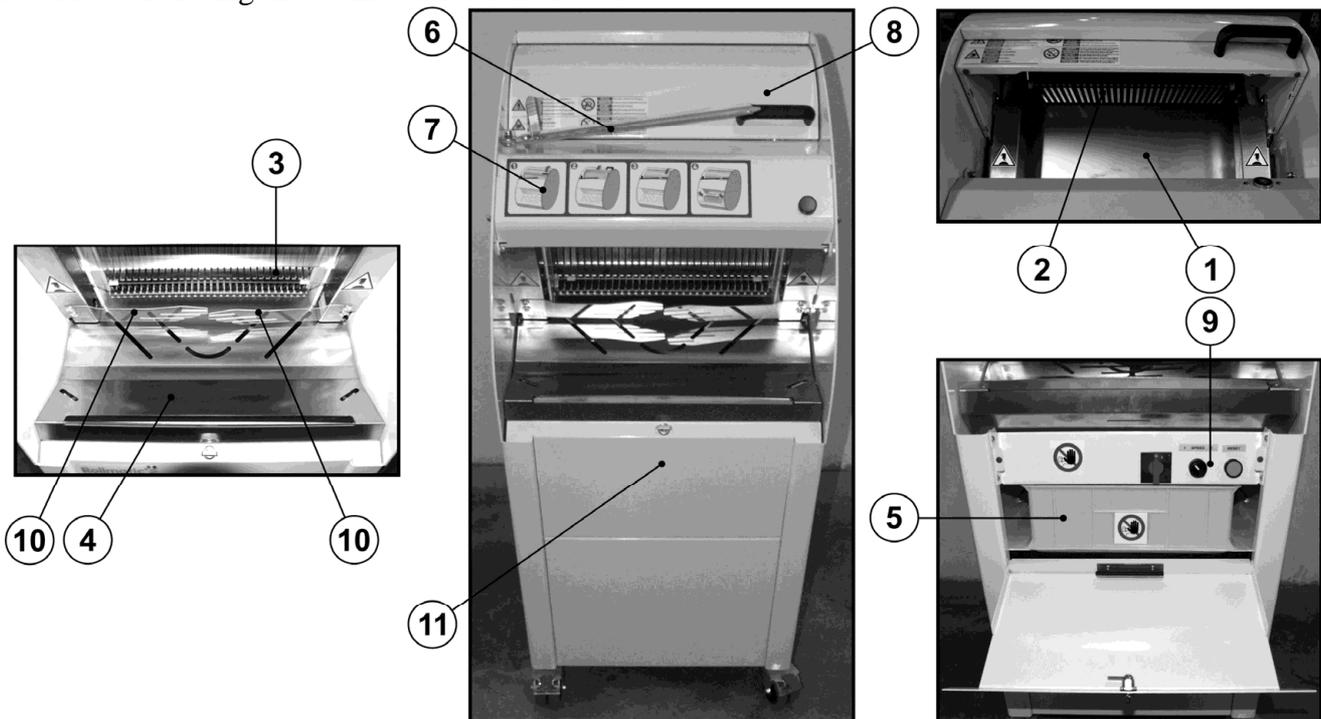
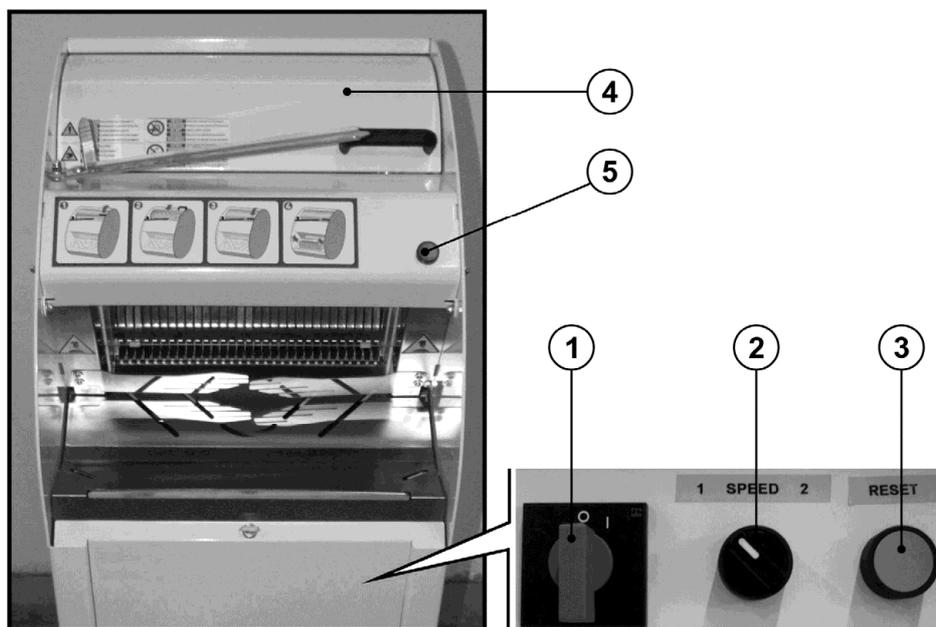

Figure 1
Figure 2
Apart from the support structure, each machine is composed of (Figure 1):
With reference to Figure 2, the machine is equipped with the following command and control devices:
- Open the door ref. 11 Figure 1
- Close the top guard and turn the main switch to I (ON).
- If necessary, select the bread pusher advance speed with selector ref. 2 Figure 2
The lamp indicating voltage presence is now lit: ref. 5 Figure 2:
If the machine has been stopped in an abnormal condition (e.g. no power or motor overload), with the top guard closed, press the RESET button ref. 3 Figure 2; the machine parts will move into start cycle position.
5. Close the top guard ref. 8 Figure 1, switch on the machine and press the RESET button ref. 3 Figure 2. Wait until the green light ref. 5 Figure 2 remains lit continuously (bread pusher in start position), turn the main switch to **O (OFF)** and take the plug out of the power supply socket;